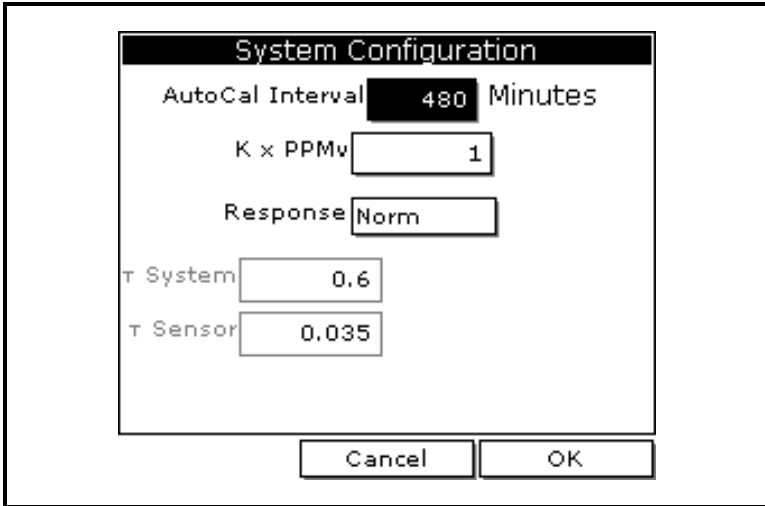

Figure 4-11: The System Configuration Window
3. Use the arrow key to scroll to **System** and press [ENTER]. A screen similar to Figure 4-11 on the next page appears.